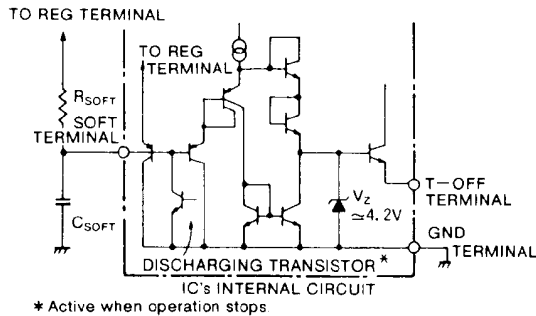

Fig.6 Circuit diagram of SOFT terminal section and T-OFF terminal section
Fig. 6 shows the circuit diagram of the soft start. If SOFT terminal voltage is low, T-OFF terminal voltage becomes low and V_{T-OFF} in equations (3) and (4) become low.